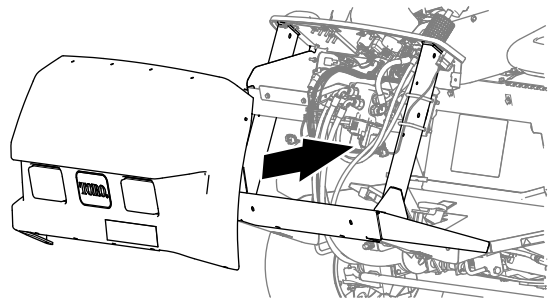

Figure 140
1. Align the holes in the hood with the holes in the chassis of the machine (Figure 140).